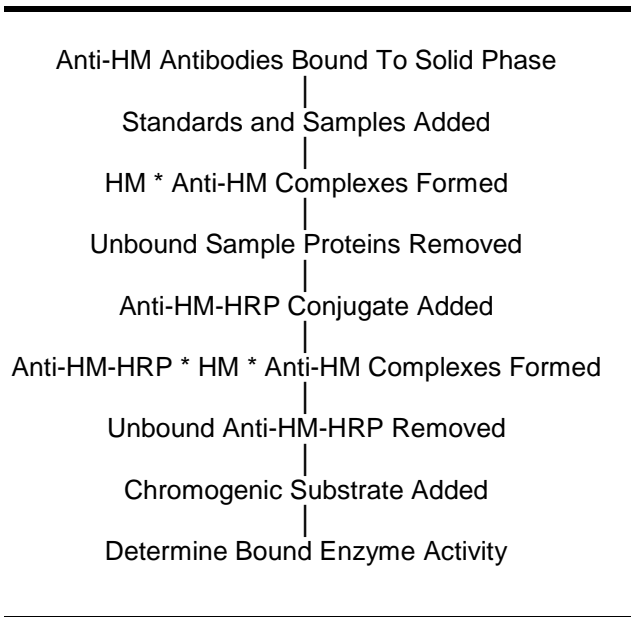

Figure 1
The principle of the double antibody sandwich ELISA is represented in Figure 1. In this assay the hemoglobin (HM) present in samples reacts with the anti-HM antibodies, which have been adsorbed to the surface of polystyrene microtitre wells. After the removal of unbound proteins by washing, anti-HM antibodies conjugated with horseradish peroxidase (HRP) are added. These enzyme-labeled antibodies form complexes with the previously bound HM. Following another washing step, the enzyme bound to the immunosorbent is assayed by the addition of a chromogenic substrate, 3,3',5,5'-tetramethylbenzidine (TMB). The quantity of bound enzyme varies directly with the concentration of HM in the sample tested; thus, the absorbance, at 450 nm, is a measure of the concentration of HM in the test sample. The quantity of HM in the test sample can be interpolated from the standard curve constructed from the standards, and corrected for sample dilution.